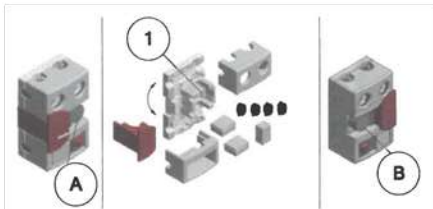

Fig. 21: Switching the feed direction from right to left
The insulation can be reconfigured to allow for forward operation on either the right or left side. To do this, rotate the ISO lower shell (item 1 in Fig. 21) by 180° and reassemble all insulation components. The design element will shift from the left to the right side.
This changes pump position A (Fig. 21) from “Supply Right” to “Supply Left,” pump position B.